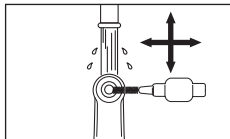

Fig. 13
- 2) Clean around the bur insertion hole for 15 seconds or more, using an interdental brush (wire thickness 0.7mm) that conforms to size 4 in ISO 16409. (Fig. 13)